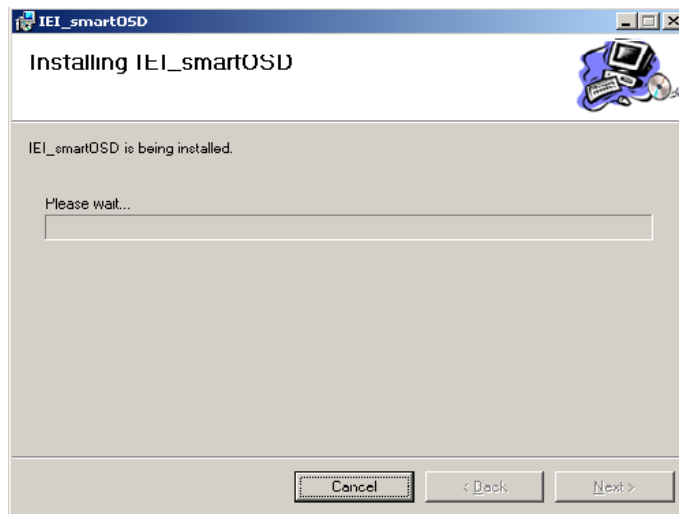

Figure C-5: smartOSD Installation Progress
Step 10: The program starts to install and the progress bar shown in **Figure C-5** appears.